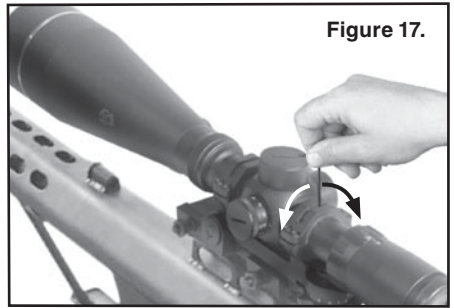

Figure 17.
1. Check the windage for zero. If the crosshair is not centered adjust it by rotating the a centric inserts via the following method: Use the slot milled into the top half of each ring to access the holes drilled thru the insert) (Fig.16). Move the inserts radially to achieve the above described scope picture by inserting a round rod into the holes drilled in the insert (Fig.17). The shank (blunt end) of a 9/64 drill works perfectly. When the reticle is centered, tighten the ring screws exerting torque on the short end of the supplied allen wrench. It is not necessary to use the leverage of the long arm to tighten the screws any more than an additional 1/8 turn.